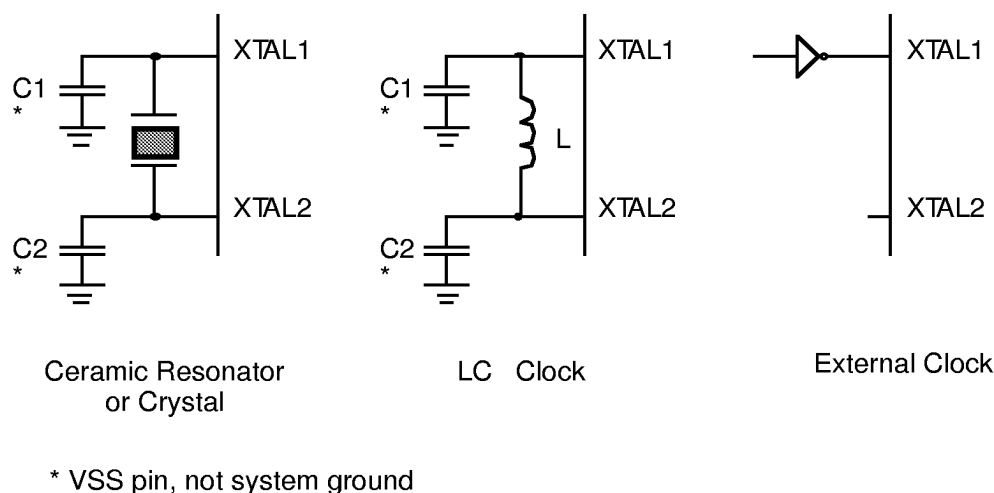

Figure 17. Oscillator Configuration
Clock. The Z86E23 on-chip oscillator has a parallel-resonant amplifier for connection to a crystal, LC, ceramic resonator, or any suitable external clock source (XTAL1=Input, XTAL2=Output). The crystal should be AT cut, 4 MHz max; series resistance (RS) is less than or equal to 100 ohms. The crystal should be connected across XTAL1 and XTAL2 using the recommended capacitors (10 pF < CL < 150 pF) from each pin to ground (Figure 17).